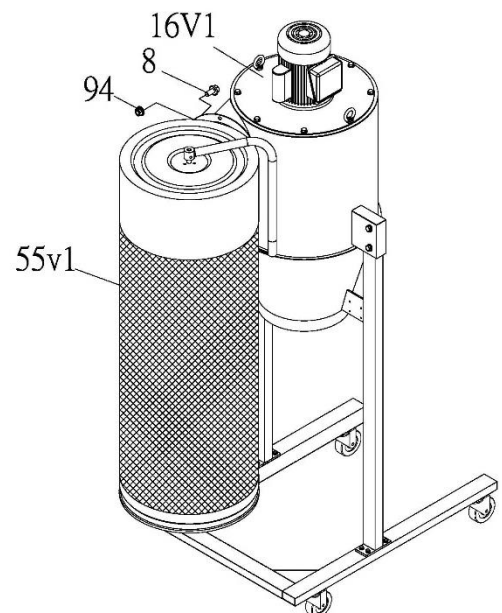

Fig. 6
8. Assemble the Canister Filter (NO.55V1) on the Main Housing (NO.16V1) and tighten with Flange Bolt Screw (NO.8) 5/16"x3/4" and Nut (NO.94) 5/16" See FIG. 6.